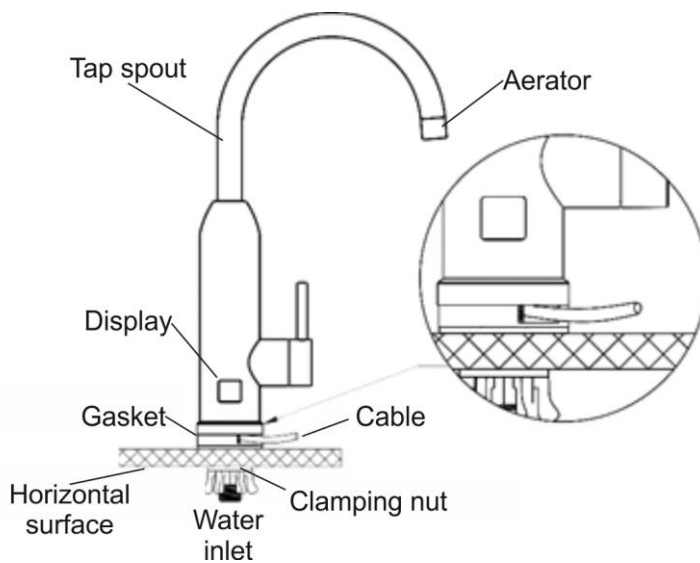
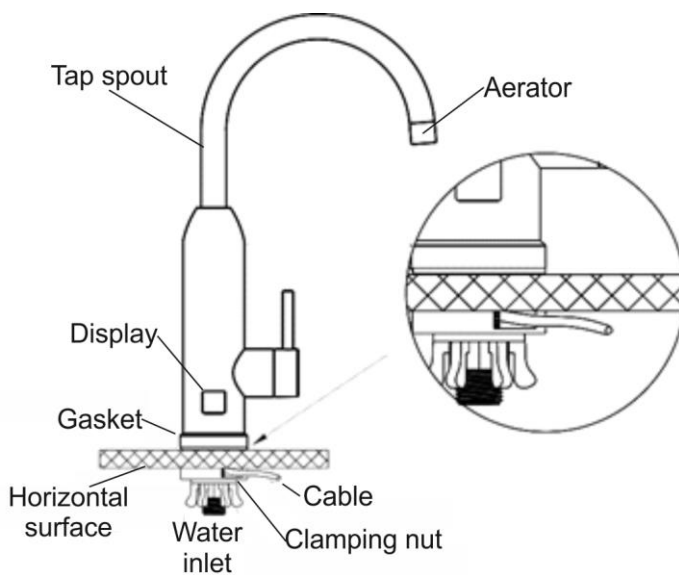

Fig. 1. Installation with the output of the power cable above the sink
Fig. 2. Installation with the output of the power cable under the sink
2. Install the IEWH on the sink in accordance with the selected installation option, following the scheme from Figure 1 or Figure 2.
The safety valve has tripped	- Disconnect the appliance from the mains and stop the water supply - Insert the rubber plug of the safety valve (Fig. 1) into the starting position - Supply water to the IEWH, wait for the water to pour out of the spout, stop the water supply. Check the density of all connections - Connect the device to the power supply.